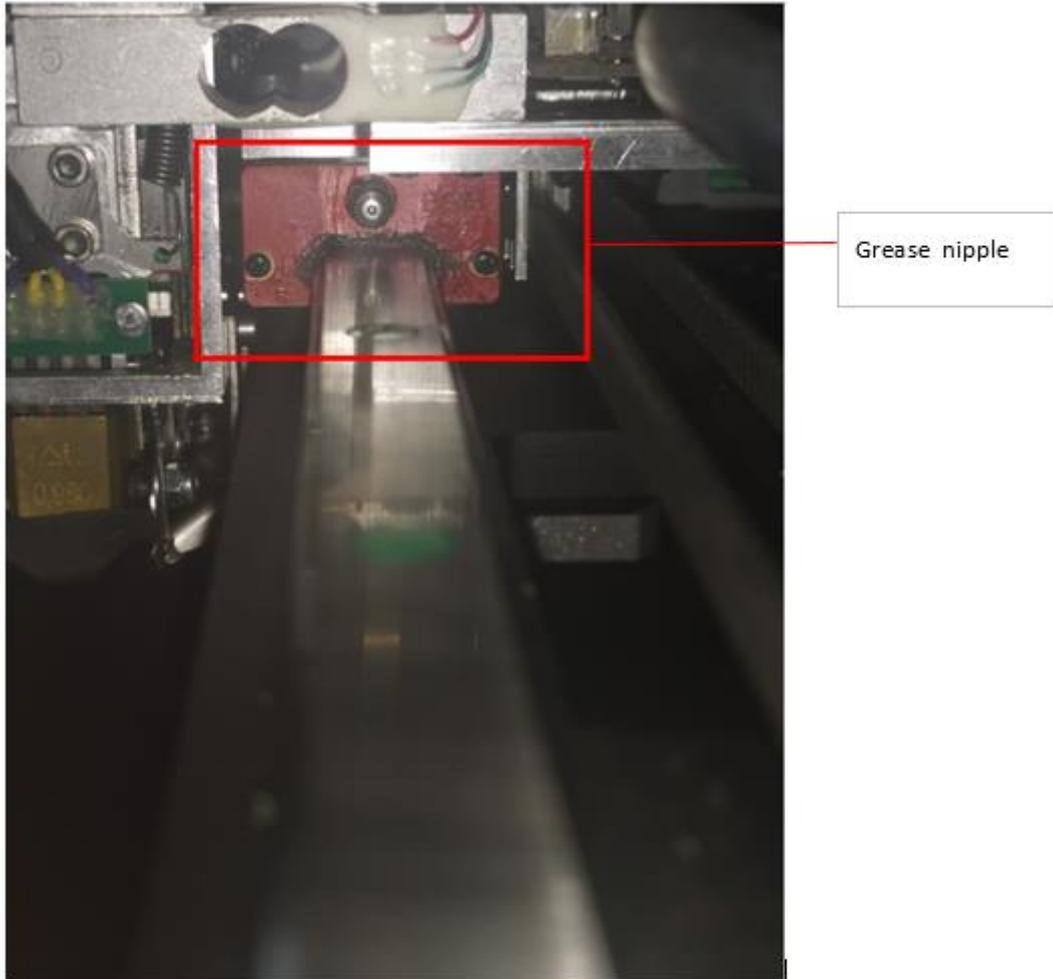

Fig.75 Linear carriage of the X axis
2. Push grease into the grease nipple of the linear carriage of the X axis (Fig.75) by pressing the lubricator nozzle firmly against the grease nipple and pressing smoothly the lubricator lever once.